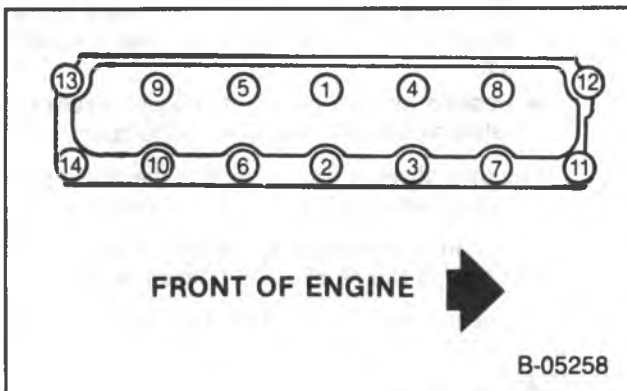

Figure 15 — Cylinder Head Bolt Tightening Sequence
Install or Connect (Figure 15)
- Cylinder head bolts a little at a time, using the sequence shown in figure 15, until the specified torque is reached. Refer to "Specifications" at the end of this section.